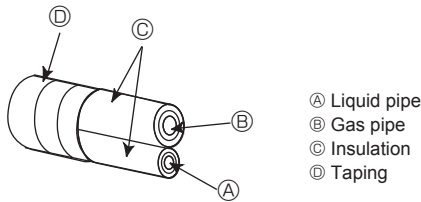
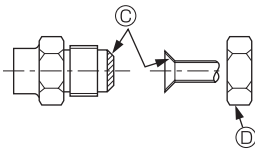

Fig. 4-2
Fig. 4-3
4.3. Connecting pipes (Fig. 4-2) (Fig. 4-3)
[Fig. 4-3]
(A) (Fig. 4-3)